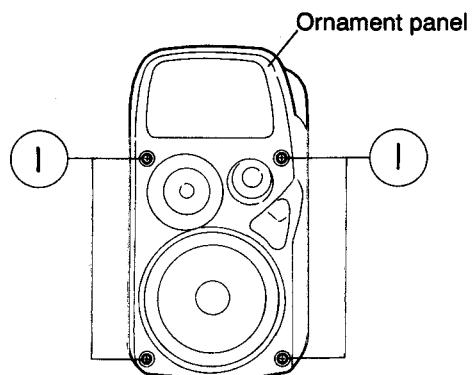

Fig. 5-61
■ **Removing the ornament panel (See Figs. 5-61 to 5-64.)**
3. Remove the four screws ① which retain the ornament panel from the front. (See Fig. 5-61.)